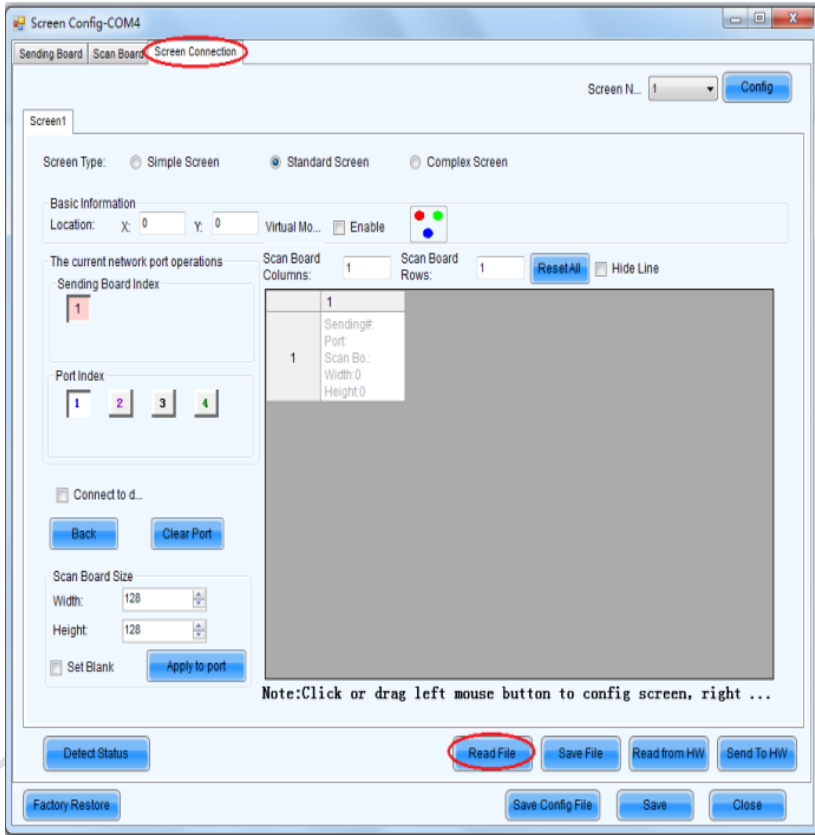

Fig 3-9 Screen Connection
- 1) Click **Read File** to load the file xxxx.scr stored in the optical disk, as shown in Figure 3-9.